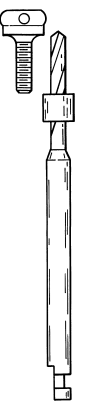

Fig. 1
4. Set the plastic Depth Reference Ring on the Pilot Drill (Zest order #8924) to a depth slightly exceeding the length of the female post. (Fig. 1) The post can be shortened if desired.